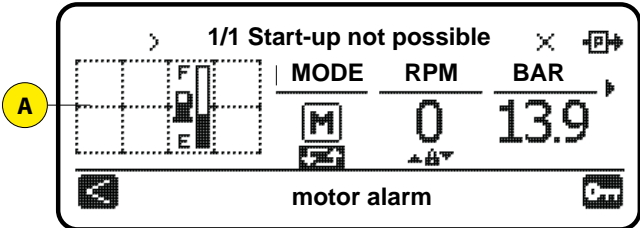

Fig. 35
If grid (A) (Fig. 35) represents the status indicator dashboard of the machine, alerts are notified by the appearance of the following symbols in the grid: